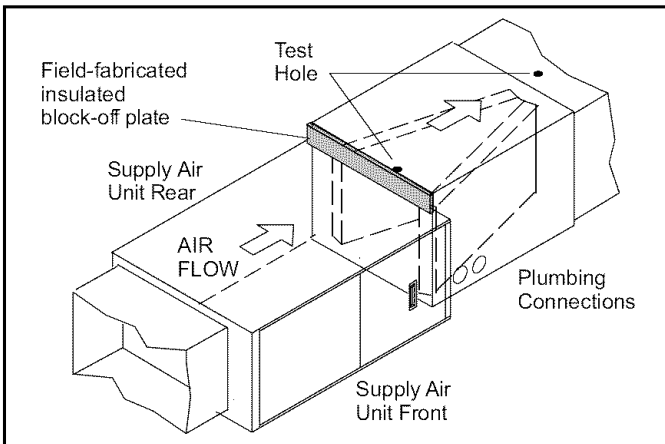

Figure 5. "D" Width Coil w/"C" Width Furnace
7. **Applications using CH33-62 "D" width unit with "C" width furnace**—Figure 5 shows an application that includes a "D" width coil and a "C" width furnace. This application requires an insulated, field-supplied block-off plate be constructed to cover the open space on the coil housing.